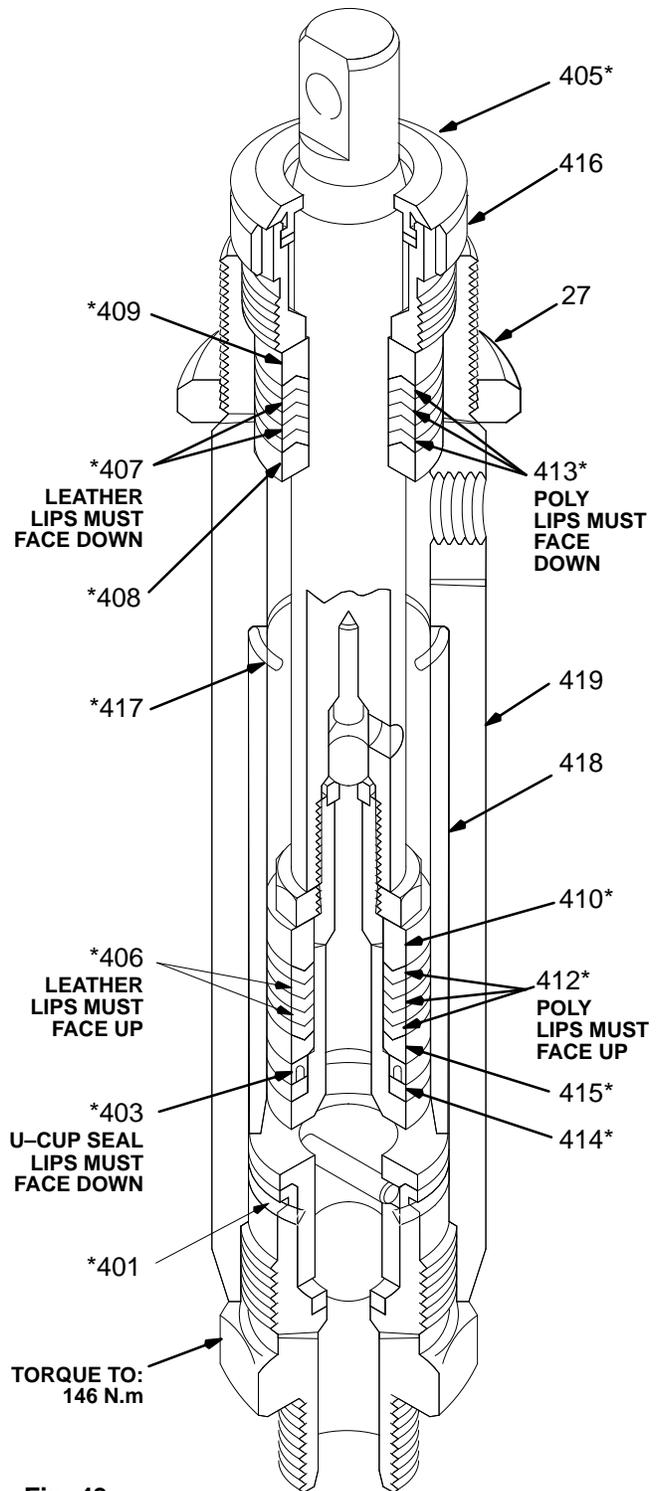

Fig. 43
4. To disassemble the rest of the pump, remove the packing nut (416) and plug (405). See Fig. 43.
5. Use a plastic mallet to tap the piston rod (424) down. Pull the rod out through the bottom of the cylinder.
6. Remove the throat packings. See Fig. 43.